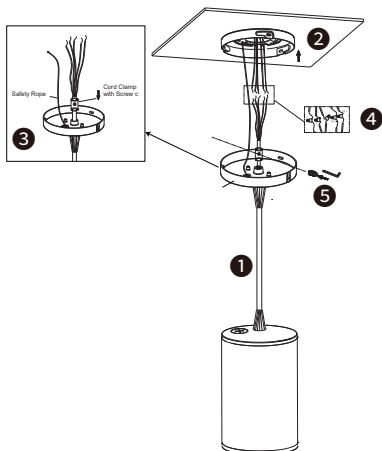

Fig 15
4. ①Slip on the line buckle and adjust the length of the lanyard. ②Fixed ceiling tray on the ceiling. ③Hang up safety rope ④Connect the wire. ⑤Fasten the cord clamp with hexagon keys (Fig 15)